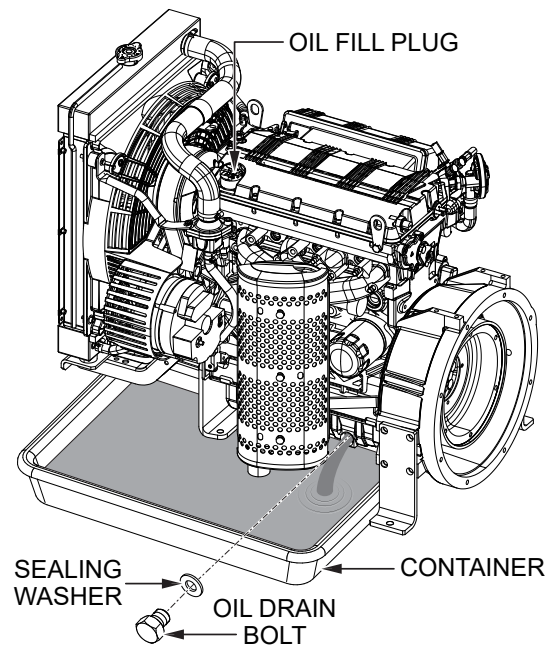

Figure 14. Engine Oil Replacement
1. Remove the engine oil drain bolt and sealing washer, and allow the oil to drain into a suitable container (Figure 14).
3. Remove the oil fill plug (Figure 14) and refill the engine oil as recommended in Table 4. **DO NOT** overfill. See Table 2 for engine oil capacity.